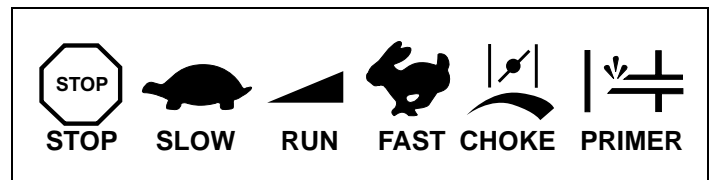

Figure 18. Typical Engine Symbols
4. Move engine speed control to "FAST" position and set choke control to "FULL CHOKE" position (see equipment manufacturer's instructions). See Figures 18 thru 21. Afterward, continue reading instructions below.